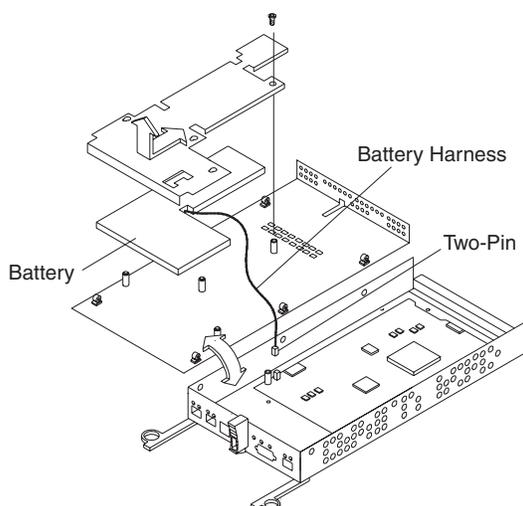

Figure 55. Removing the controller battery
8. Carefully flip over the RAID controller bottom panel. Disconnect the battery harness on the battery from the two-pin connector on the controller board, as shown in Figure 55.
11. Carefully flip over the RAID controller bottom panel. Disconnect the battery harness on the battery from the two-pin connector on the controller board as shown in Figure 55 on page 67.